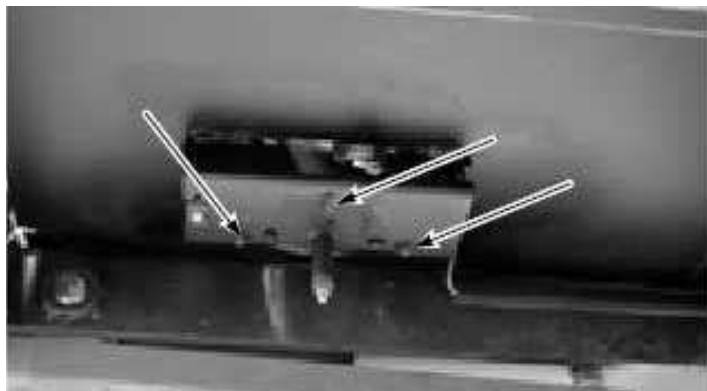

Figure 7-22. *Deadman Lock Nuts and Washers*
4. Remove the three lock nuts and washers that secure the deadman pedal assembly to the operator platform. See Figure 7-22.
10. Install washer and lock nut on bottom of each deadman pedal assembly post. See Figure 7-22.